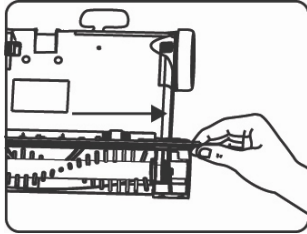

Fig. 16
- To replace the squeegee, follow instructions above for removing the gear box and slide the squeegee out from left to right. (Fig. 16)